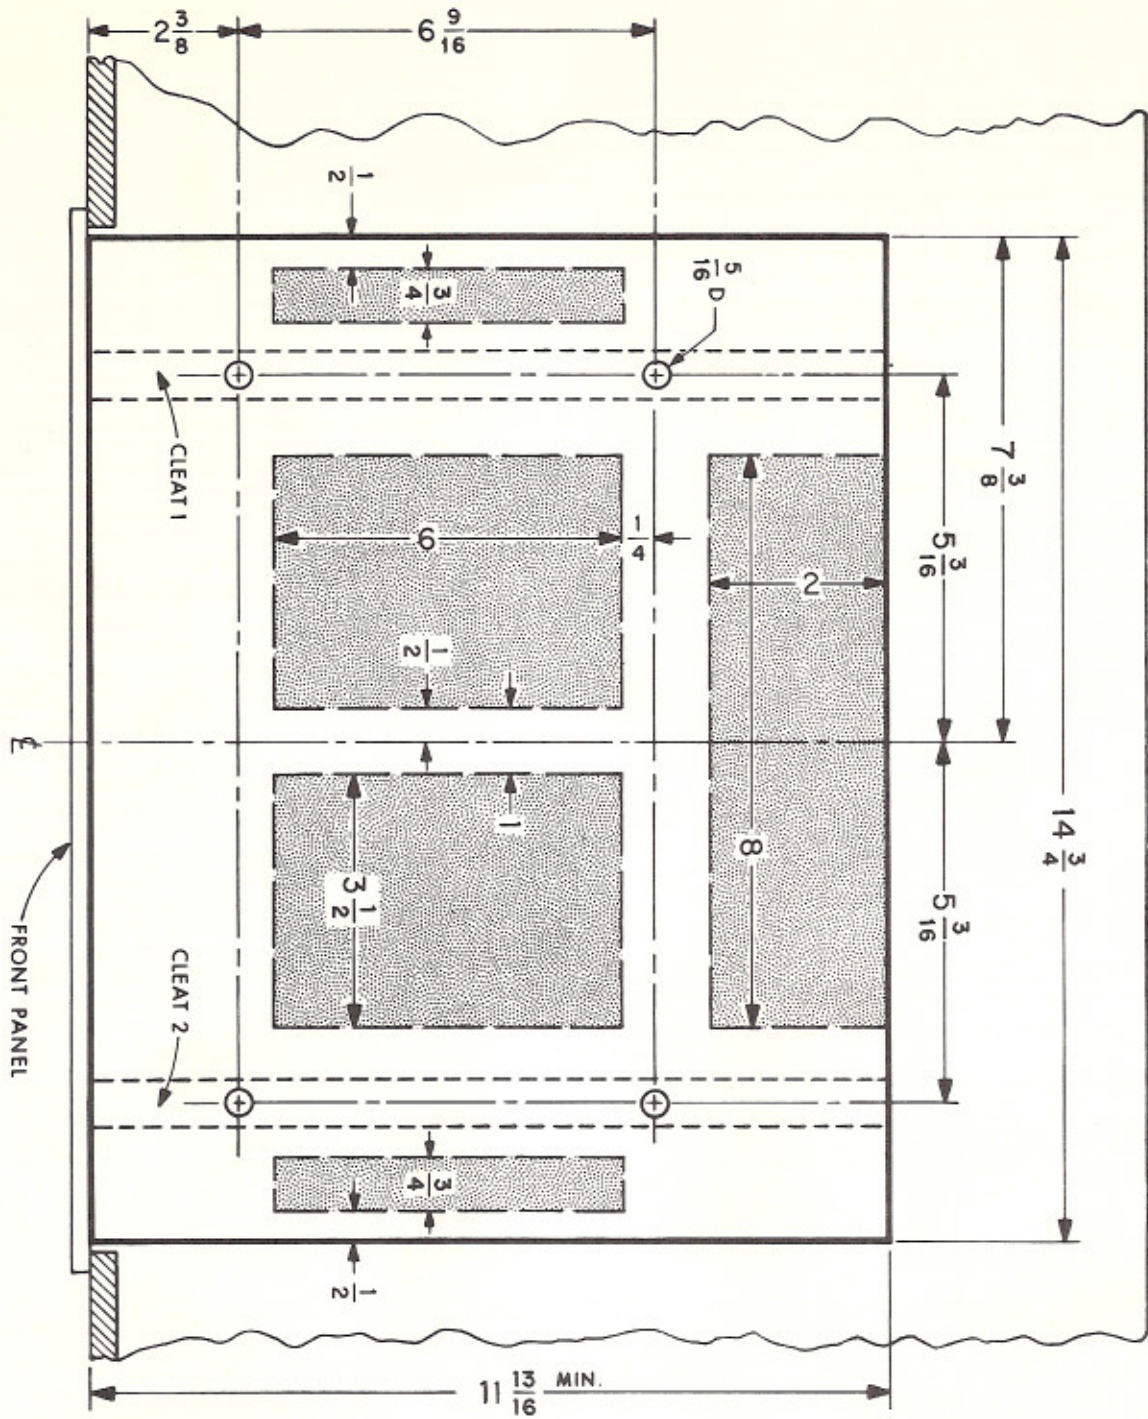

Figure 6. Top view of custom cabinet installation (horizontal mounting)
(1) Obtain a strip of wood $\frac{3}{4}$ inch square and 20 inches long. Cut this strip in half to form two 10-inch cleats.
(2) Fasten the two cleats to the top of the mounting board with wood screws in the position shown in Figure 6. Screw heads should be flush with the top of the cleats. Then locate and drill four $\frac{1}{4}$ -inch holes through the mounting board and cleats as indicated.
NOTE: For additional ventilation, you may make the optional cutouts shown as shaded areas in Figure 6. These cutouts are desirable, but not necessary.